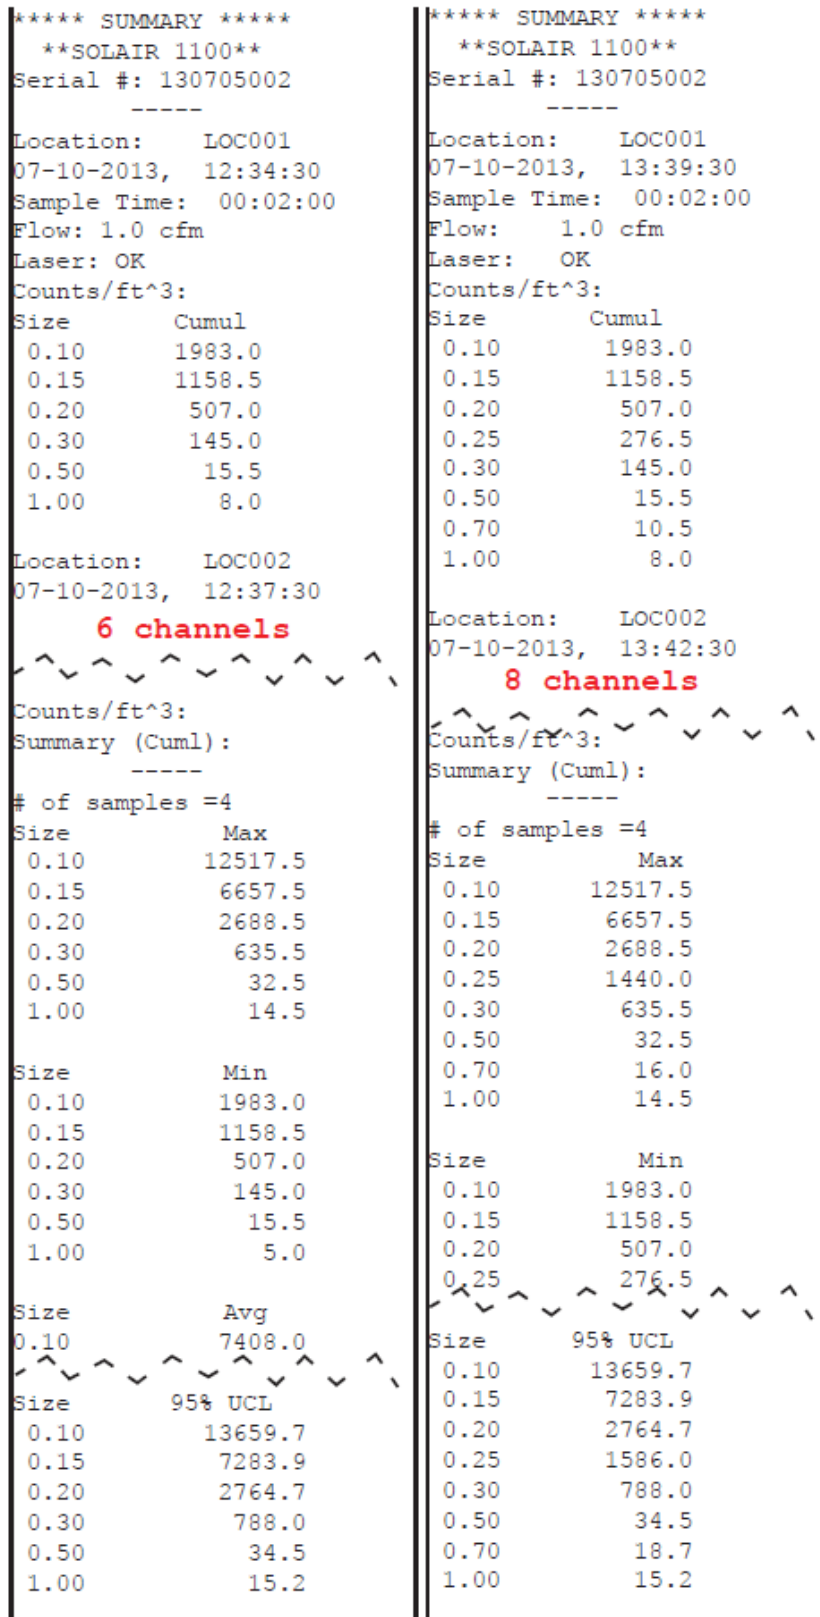

Figure 6-85 Sample Buffer Reports
- Figure 6-85 below, displays sample buffer reports.